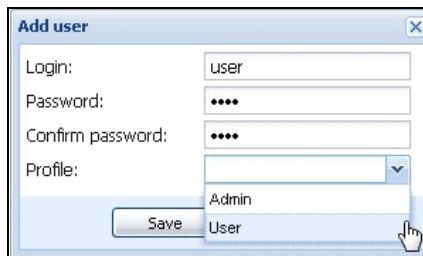

Figure 23. Add User Dialog Box
3. Type the user's login and the user's password (see Figure 23).